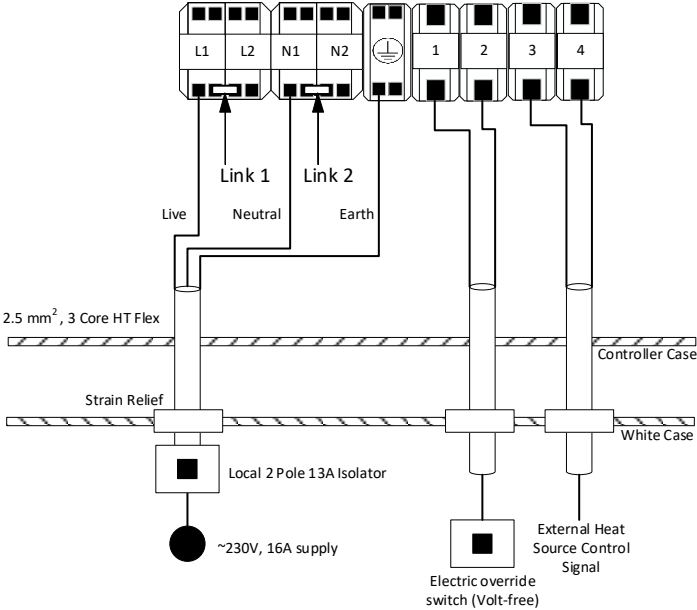

Figure 12.2: HW +i system wiring
- Wire a 2 core PVC insulated cable (minimum 0.75mm² CSA, 24 x 0.2mm according to BS 6500) from a 2-pole Volt-free contact switch, run the wire into the appliance via the appliance case cabling grommets and then into the control box housing through the hole available. Secure the cables in Terminal T1 & T2 independently (Figure 12.2).
centre (please refer to External heat source manual). Please run the wire into the heat battery appliance via the appliance case cabling grommets and then into the control box housing through the hole available. Secure the cables in Terminals T3 & T4 independently (Figure 12.2).